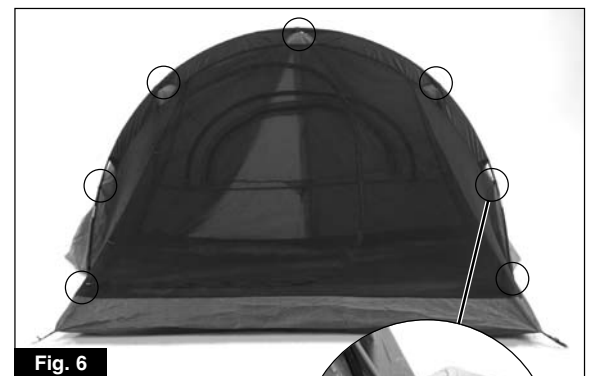

Fig. 6
2. Unzip door on rainfly and fold back flaps for better access to the hook & loop fasteners on the underside of the rainfly. (Fig. 6)